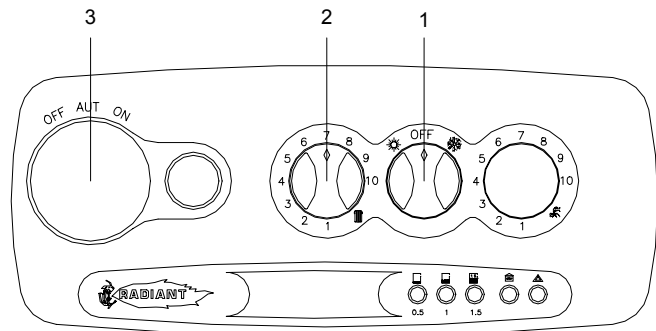

Fig. 1
- B. Move the bridge PT (see fig.1) from terminal TA to the free one next to it.
### LEGEND (see fig. 1)